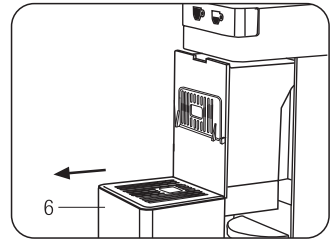
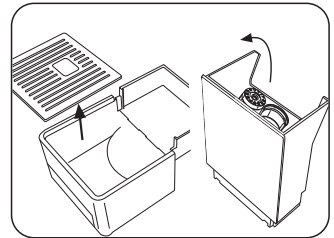

Fig. 11
Fig. 12
Up to 8 capsules can fit into the capsule receptacle. It is advisable to regularly empty the receptacle to prevent the capsules from getting stuck inside it. To do this, you need to remove the capsule receptacle (6). **(Fig. 11)** Empty the capsule receptacle and rinse. Clean off any water and coffee residues from the drip tray and grid **(Fig. 12)**. Once clean, reintroduce the tray and the capsule receptacle into the machine.